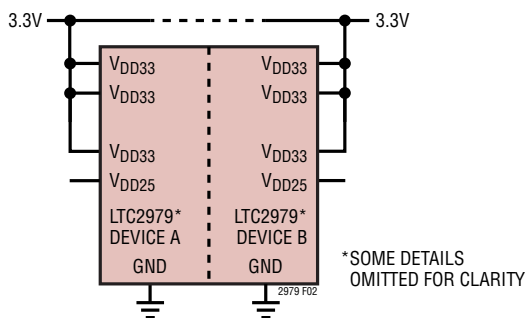

Figure 2. Powering LTC2979 from a 3.3V Supply
The LTC2979 is powered from a 3.13V to 3.47V supply connected to the VDD33 pins. Tie all the VDD33 pins on each half of the device together. See Figure 2. Separate 3.3V supplies can be used for VDD33(A) and VDD33(B).